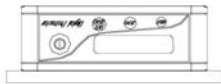

Figure 3
3. Turn over the digital level in the same plane, figure 3, wait 10 seconds and record the third degree value when it is stable.